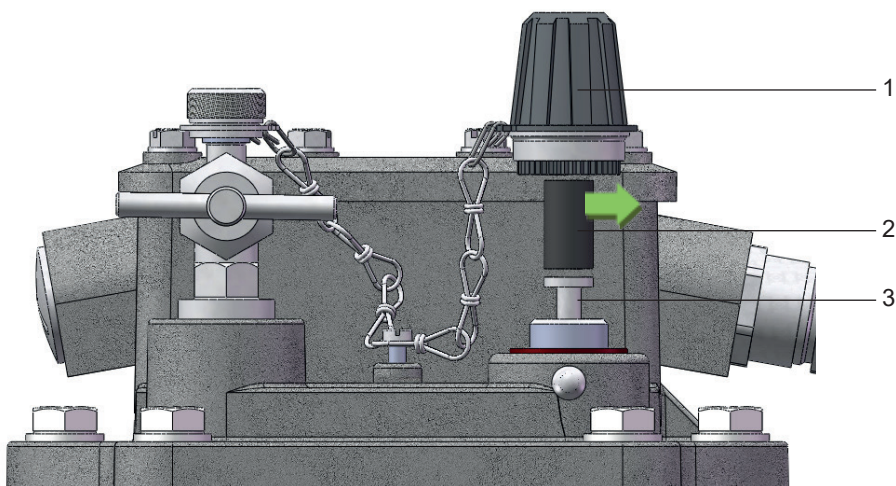

Fig. 5 – Removal of transport lock
- Remove the large cap nut (Fig. 5/ no. 1) from the test key (Fig. 5/ no. 3).
- Remove the transport lock (Fig. 5/ no. 2) from the cap nut.
Connect the protective conductor (green-yellow insulation) to the earth terminal (Fig. 5/ no. 6) (max. tightening torque: 3 Nm).